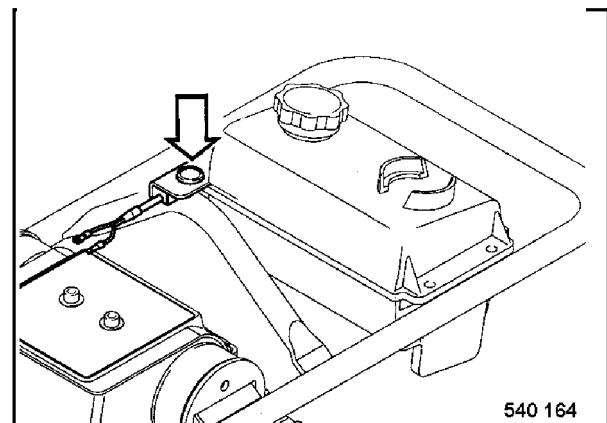

Fig. 2
- Press the stop switch (push button) (Fig. 2).